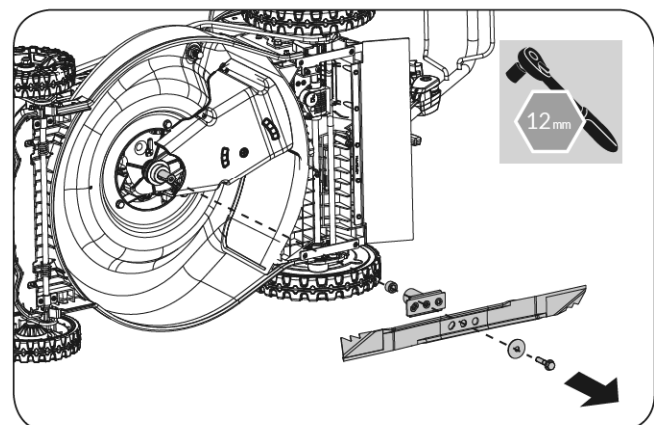

Figure 43
1. Remove the blade. (See **Figure 43**)